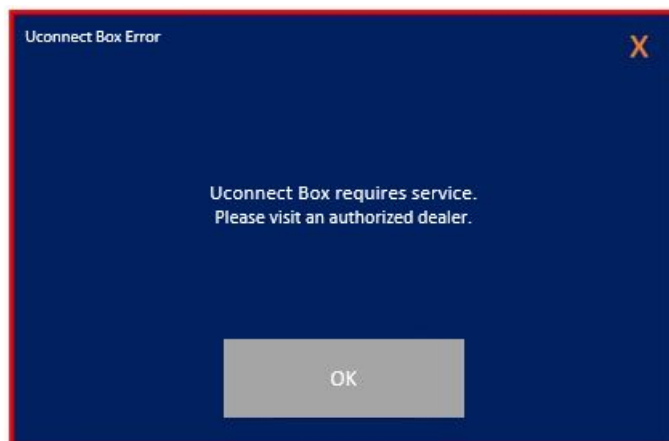

Fig. 1
- Message display on the radio screen, “Uconnect Box requires service. Please visit an authorized dealer” (Fig. 1) , with no active or stored Diagnostic Trouble Codes (DTCs) set by TBM.